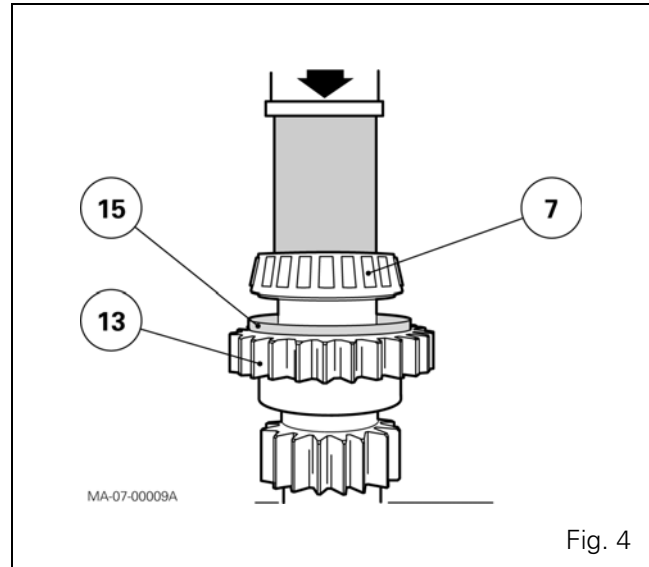

Fig. 4
32. Place the deflector (15) on pinion (13), and press-fit the bearing cone (7) fully home into the shoulder (Fig. 4). Lubricate the cone bearing (4) and place it in the bearing cup (3).